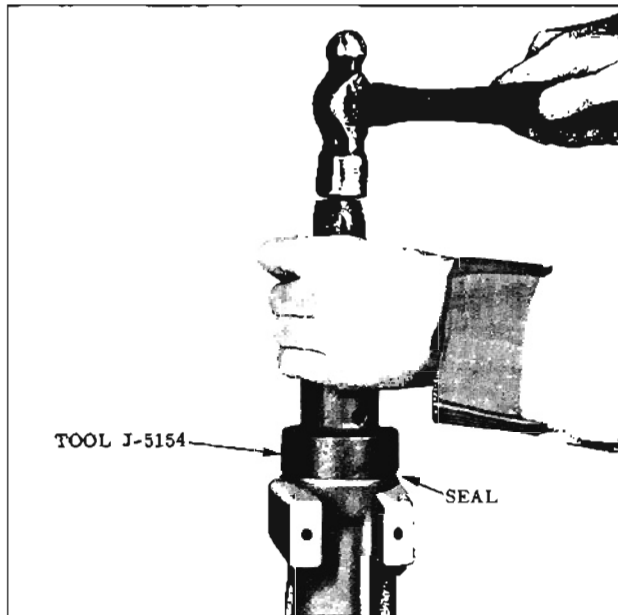

Fig. 7-26 Installing Rear Bearing Retainer Oil Seal
3. Install the seal into the rear bearing retainer using Seal Installing Tool J-5154. (Fig. 7-26)